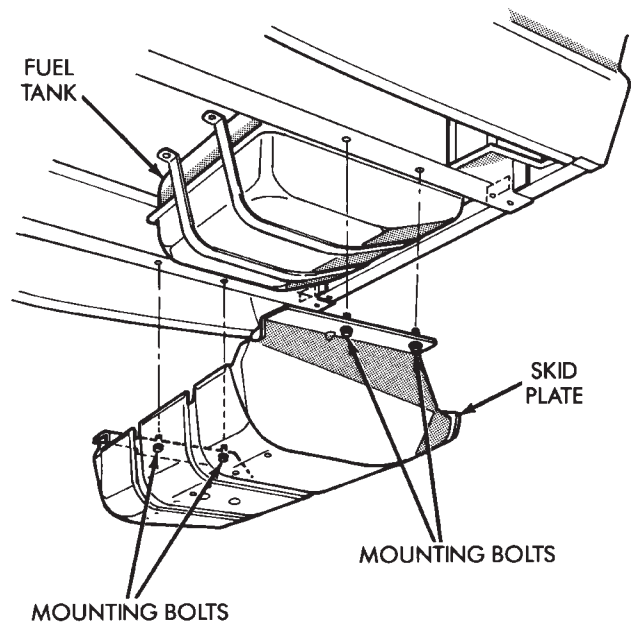

Fig. 2 Skid Plate—XJ Models
- (6) Disconnect fuel tank vent hose from vent tube.
- (7) Disconnect fuel supply and return hoses from tubes.
- (8) If equipped, remove skid plate (Fig. 2).